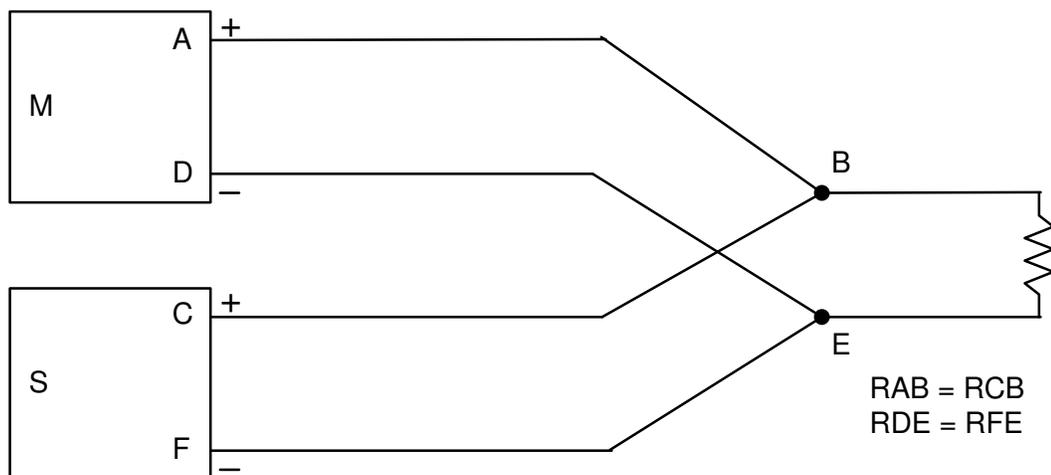

FIGURE 9: MASTER/SLAVE POWER CONNECTION
III.3.7 parallel operation (figure 9)
- 4) See Figure 9 for + and - power connections.